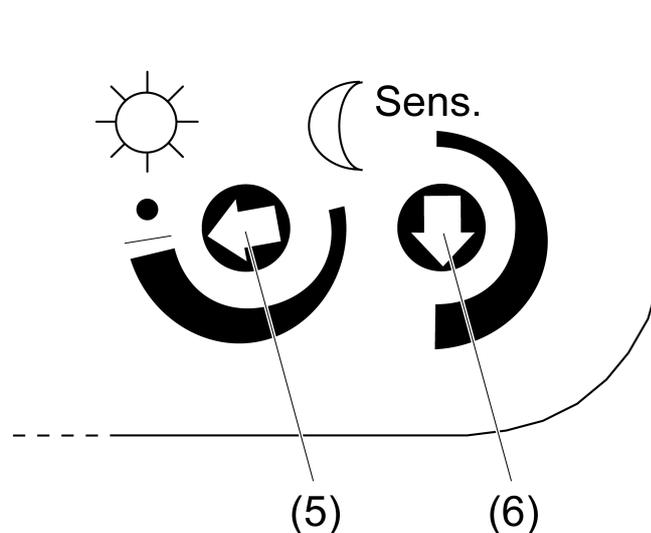

Figure 9: Adjusters on the rear
- Use the sensitivity controller **Sens.** (6) to adjust the sensitivity of the sensor between maximum and minimum sensitivity (Figure 9).
- Use the brightness setpoint controller (5) to adjust the brightness setpoint: